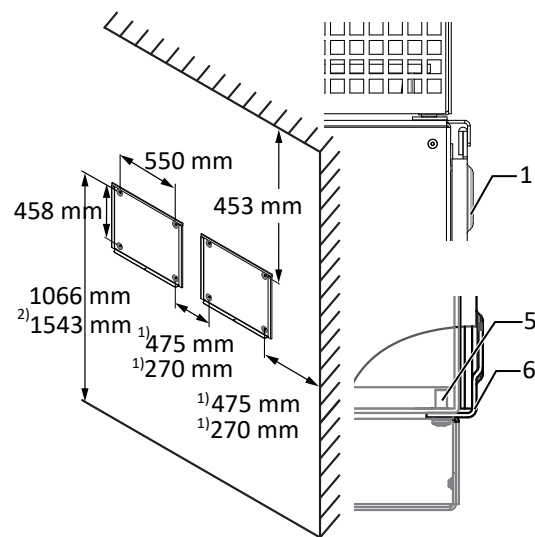

Fig. 17: Wall mounting
- Minimum clearances to be observed during installation: [See figure 17: Wall mounting ► Page 21]
2. Fit the device onto the upper mount by means of the mounting bracket. Fit the device onto the lower mounting bracket in full so that the device sits flush with its rear side on the mount ([See figure 17: Wall mounting [► Page 21]]).